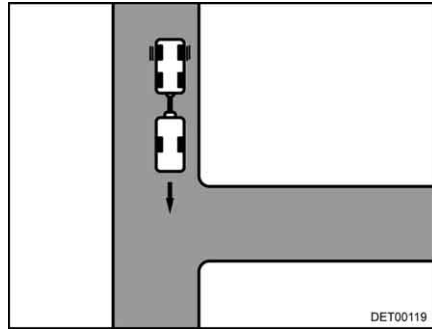

Fig. 15 Approach
- Drive up to the entrance until the rear of the caravan is roughly level with the entrance (Fig. 15).